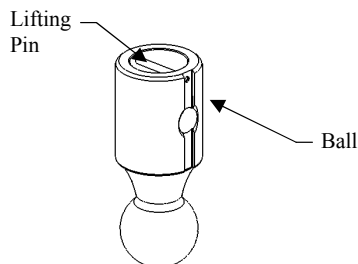

Figure 5
12. With the ball in the stored position (see figure 5). Check for clearance between ball and truck equipment (I.E. differential, brake lines, electrical lines, and others) by measuring from axle up to rubber bumper stop and from ball to nearest item. If insufficient space is present, inform customer not to store ball in the head when carrying heavy loads. The axle to the rubber bumper stop distance should be less than the ball to nearest item.